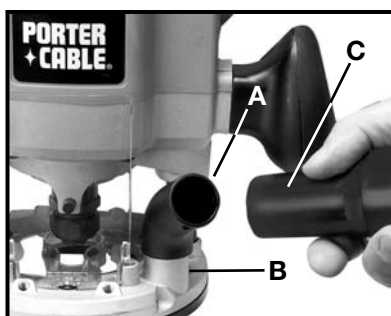

Fig. 1
A dust-collector extension tube is furnished with this tool. This elbow-shaped extension (A) Fig. 1 should be placed on the dust port (B). A standard 1" vacuum hose can then be attached to this extension to connect the tool to a vacuum cleaner or dust collection system.